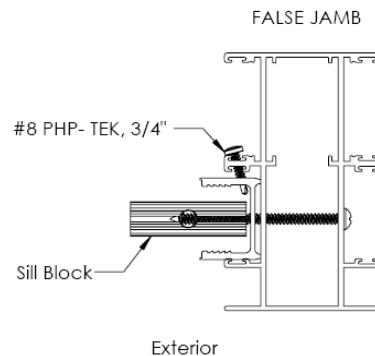

Figure 24:
- From the inside attach the bottom of the "O" panel to the False Jamb using a (1) #8 x 3/4" PHP TEK screw (Figure 24).